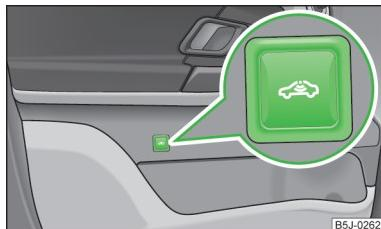

Fig. 34
- Press the  » Fig. 34 button in the driver's door.